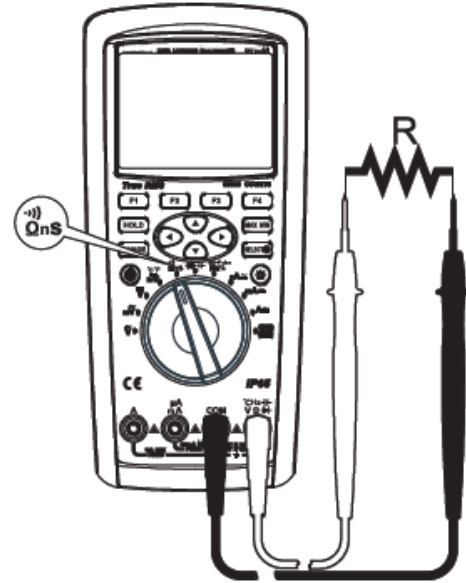

Figure 8
- 2) Set the rotary switch to the Ω nS  position. The meter will default to resistance measurement. Connect the test leads to both ends of the measured resistance as shown in Figure 8.
- 2) Set the rotary switch to the measurement Ω nS . Press the SELECT key twice to select Conductance measurement. Connect the test leads to both ends of the measured resistance as shown in Figure 8.
- 2) Set the rotary switch to the measurement Ω nS , press the SELECT key to select the Continuity test . Connect the test leads to both ends of the measured resistance as shown in Figure 8. Press the function key labelled, "MENU" to select measurement options. Pressing the function key labelled, "SHORT" will put the meter in Short Circuit Alarm mode. Pressing the function key labelled, "OPEN" will put the meter in Open Circuit Alarm mode.